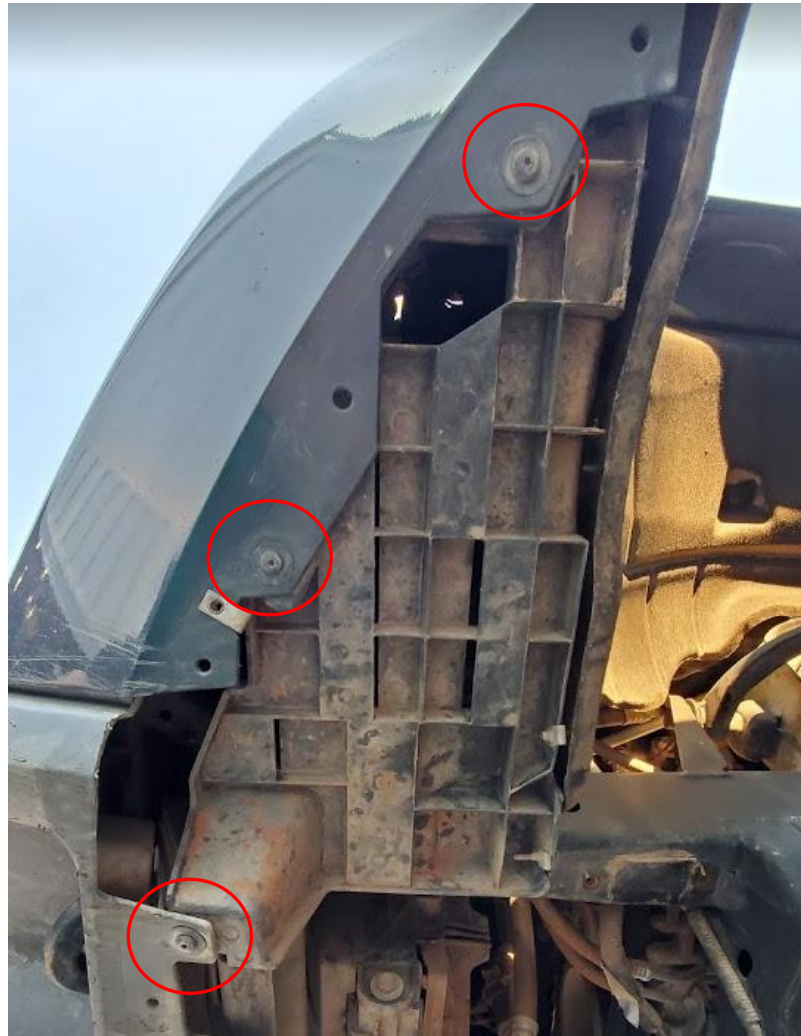

Figure 2 T15 Torx Below Vehicle
3. Use the T15 screwdriver to remove the 3 T15 torx screws under the vehicle identified in Figure 2